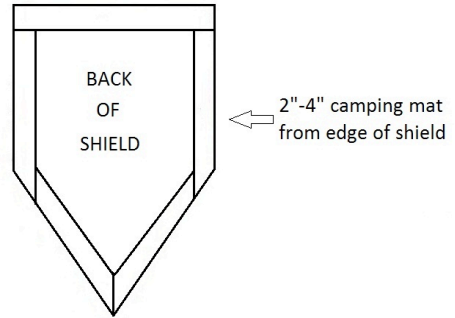
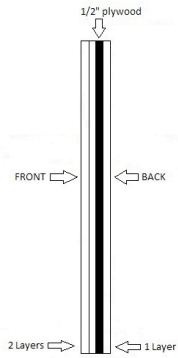

FIG. 6
FIG. 7
**Step 5:** Pad the back of the shield (Fig 6). You don't have to pad the entire back surface, in fact I recommend against it. Instead, cut strips 2"-4" wide and glue around the perimeter of the shield. Cut strips the width of the shield and wrap the side with two layers (Fig 7). Cover seams with duct tape. Place shield face down on camping mat and trace. Cut, glue and tape seams. Add one final layer around the edge and your ready to cover (Fig 8).